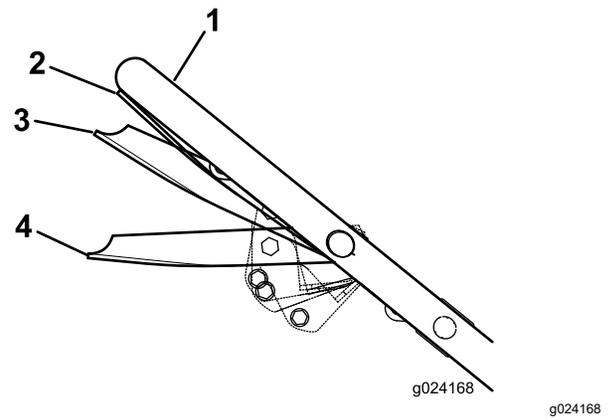

Figure 17
3. Squeeze the blade-control bar against the handle to the Run/Drive position (Figure 17).
**Important:** Shifting speeds while squeezing the blade-control bar against the handle in the Run/Drive position could damage the transmission. Move the blade-control bar to the Run/Shift position (Figure 17) whenever you change the ground speed.